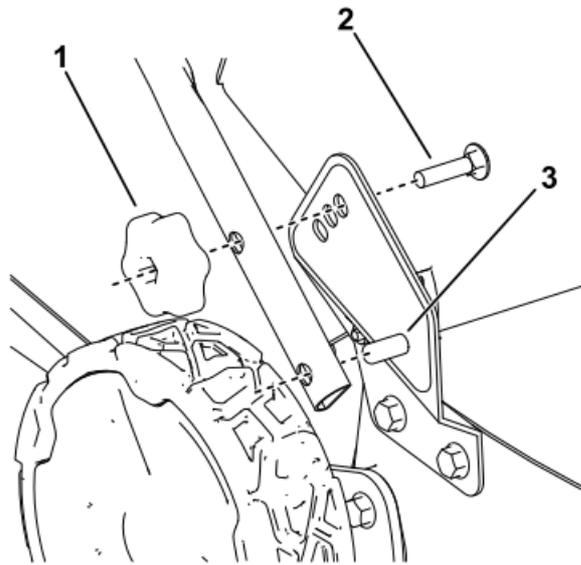

Figure 3
1. Install the lower handle over the post on the lower handle bracket and position the lower handle for desired handle height (Figure 3).
Remove the lock knobs and carriage bolts from the lower handle, move the handle to 1 of 3 positions, and install the lock knob and carriage bolts in the new position (Figure 3).